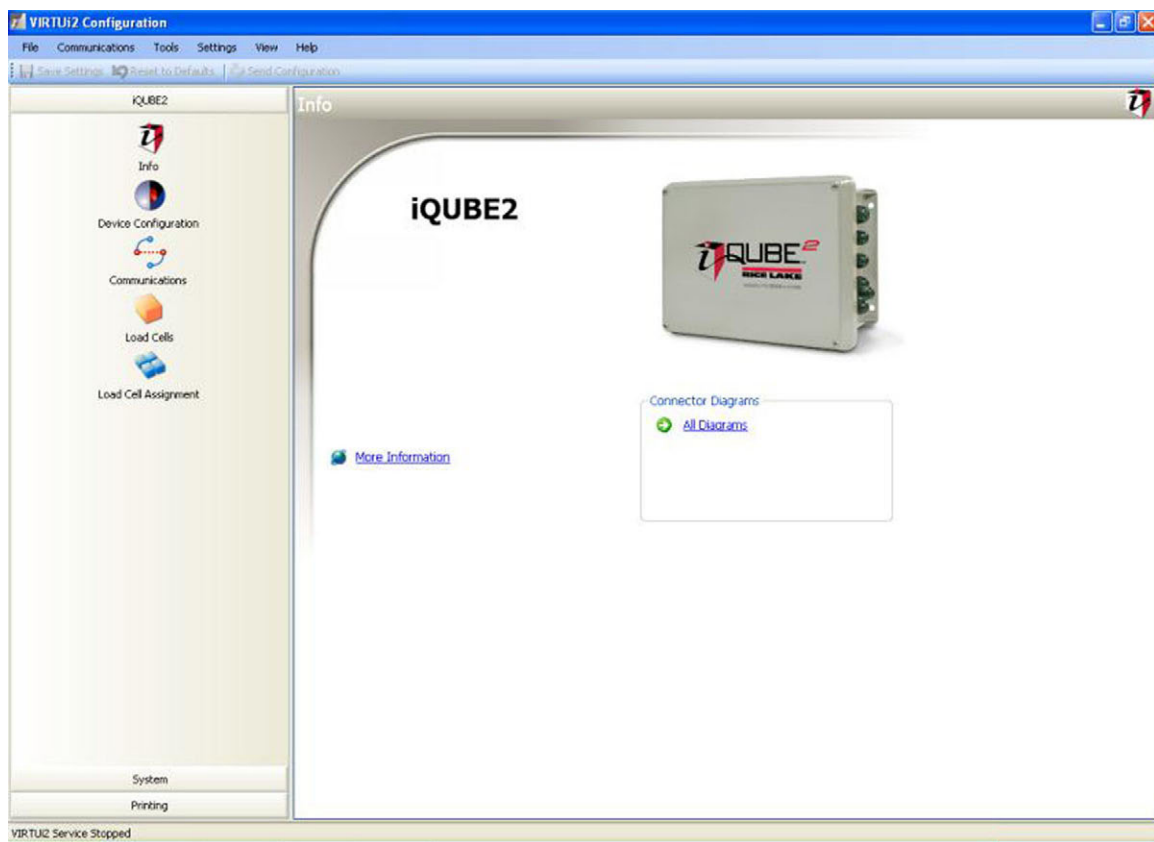

Figure 3-23. VIRTUi2 Home Screen
1. Open the VIRTUi2 Configuration Program. See Figure 3-23.